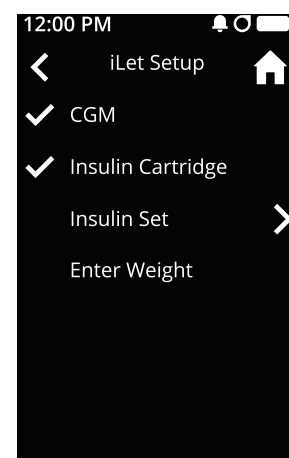

Figure 67
- When you are done changing your insulin cartridge, the Insulin Cartridge row will be checked off (see Figure 67) and the iLet Device will ask you if you need to change your insulin set. Tap **Yes** to proceed to placing your new infusion set.